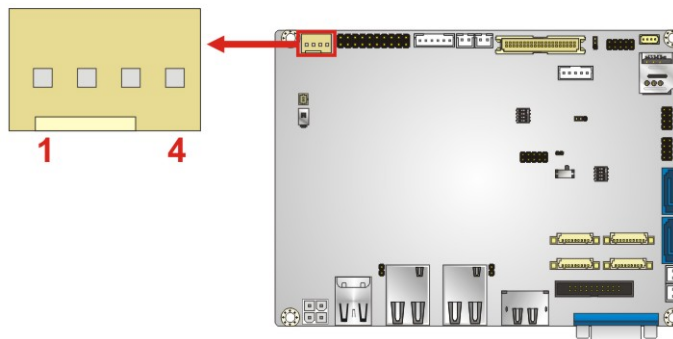

Figure 3-7: Fan Connector Location
- CN Location:** See **Figure 3-7**